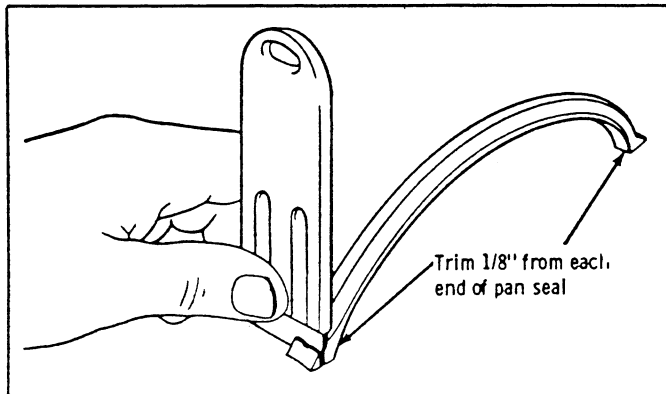

Fig. 41 Trimming Pan Seals
3. Trim about 3 mm (1/8") from each end of new front pan seal (Fig. 41).